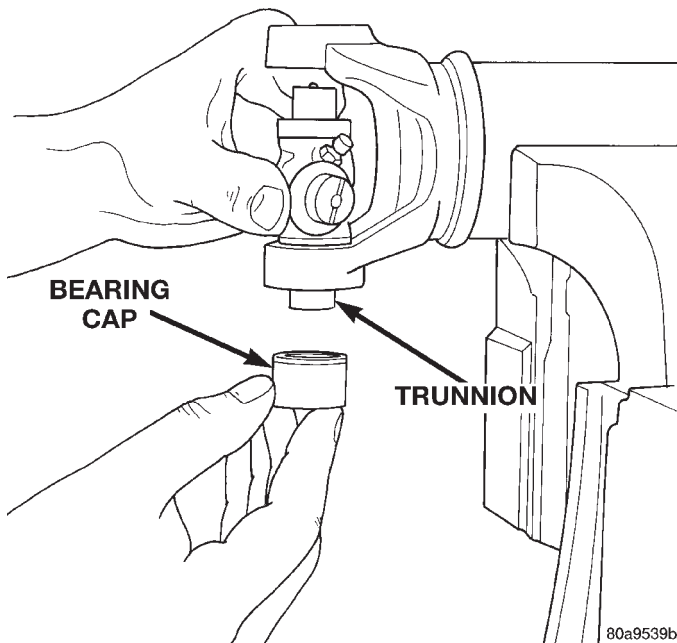

Fig. 21 Install Bearing On Trunnion
(3) Place a bearing cap over the trunnion and align the cap with the yoke bore (Fig. 21). Keep the needle bearings upright in the bearing assembly. A needle bearing lying at the bottom of the cap will prevent proper assembly.